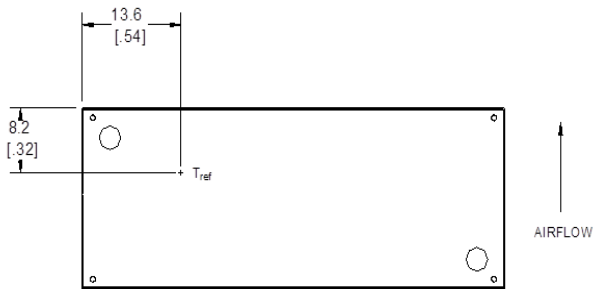
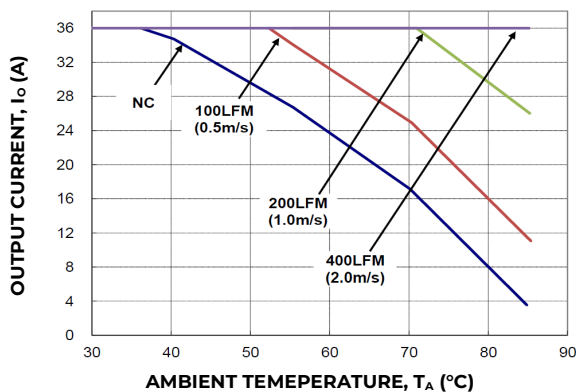

**Figure 13.  $T_{\text{ref}}$  Temperature Measurement Locations for Open Frame Module.**
**Figure 14.  $T_{ref}$  Temperature Measurement Location for Module with Heatplate.**
To provide protection under certain fault conditions, the unit is equipped with a thermal shutdown circuit. The unit will shutdown if the thermal reference point,  $T_{ref}$ , exceeds 135°C (Figure 13, typical) or 120°C (Figure 14, typical), but the thermal shutdown is not intended as a guarantee that the unit will survive temperatures beyond its rating. The module will automatically restart upon cool-down to a safe temperature.
The thermal reference points,  $T_{\text{ref1}}$  and  $T_{\text{ref2}}$ , used in the specifications for open frame modules are shown in Figure 13. For reliable operation these temperatures should not exceed 122°C and 123 °C respectively.
The thermal reference point,  $T_{ref}$ , used in the specifications for modules with heatplate is shown in Figure 14. For reliable operation this temperature should not exceed 100°C.